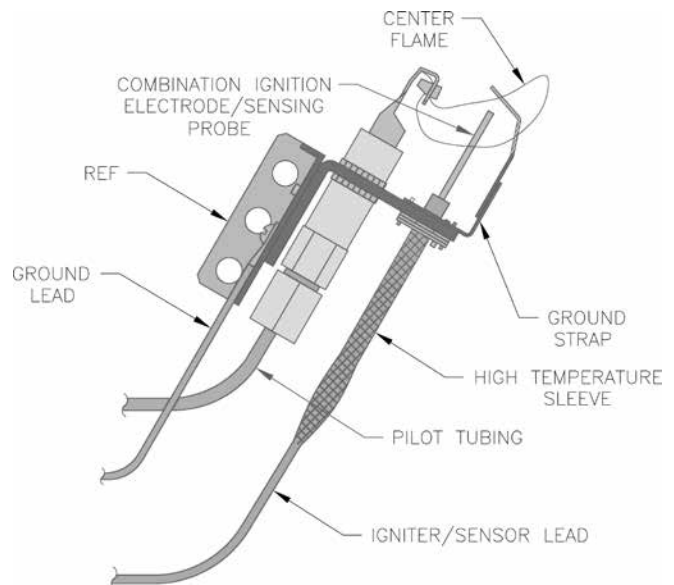

Figure 9-5: Pilot Burner Flame (LP Only)
LP Gas Only. Pilot burner produces three (3) flames. The center flame should be steady, medium hard blue enveloping 3/8 to 1/2 inch of sending probe. See Figure 9-5.